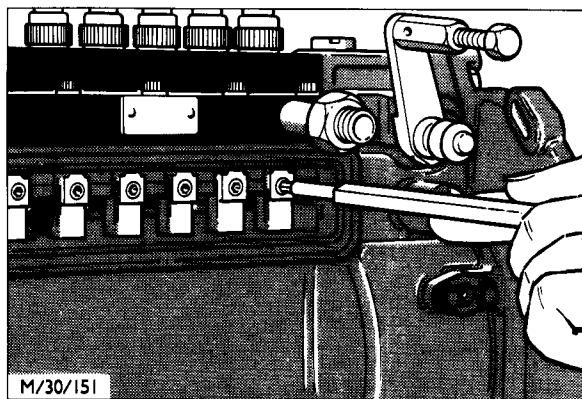

Fig. 18 - Adjusting the Control Forks
7. Slacken the securing screws on the remaining control rod forks. Adjust the position of the forks on the control rod to bring the line balance of all the elements within the specified tolerance (Fig. 18). Move the forks towards the governor to increase delivery and away from the governor to decrease delivery. Tighten the securing screws.